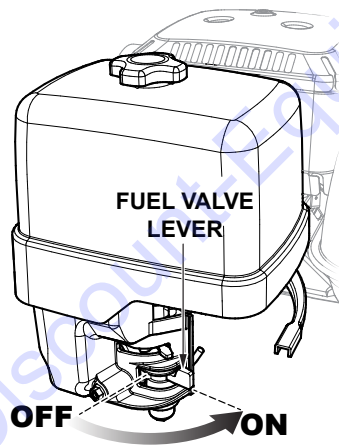

Figure 22. Fuel Valve Lever (ON)
1. Place the fuel valve lever in the **ON** position (Figure 22).